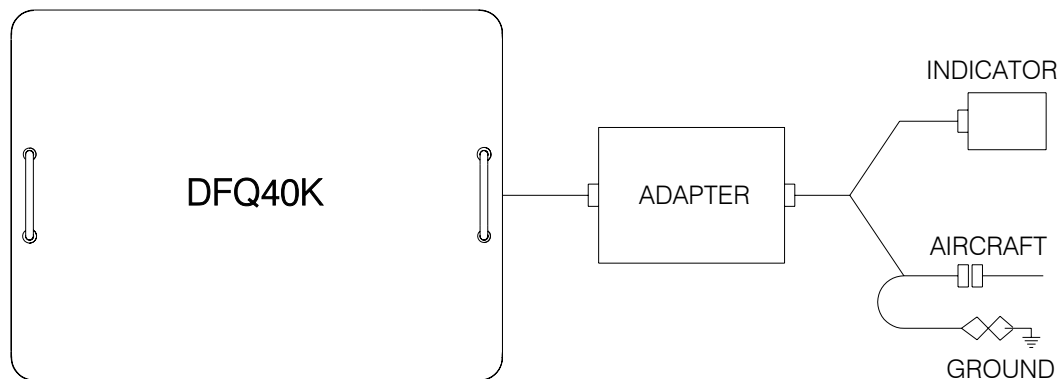

Figure 12 AIRCRAFT SYSTEM CALIBRATION, ALTERNATE CONFIGURATION
- (1) Locate the equipment conveniently for the following procedures.
- (2) Connect to the Test Set the Adapter Cable specific for the Aircraft being tested, as shown in Figure 12 or as directed in the Adapter Cable Instructions.
- (3) Connect the Adapter Cable between the Indicator and the aircraft wiring plug.
- (4) Connect the ground lead from the adapter (if so equipped) or from the Test Set **GND** receptacle, to a secure airframe ground.